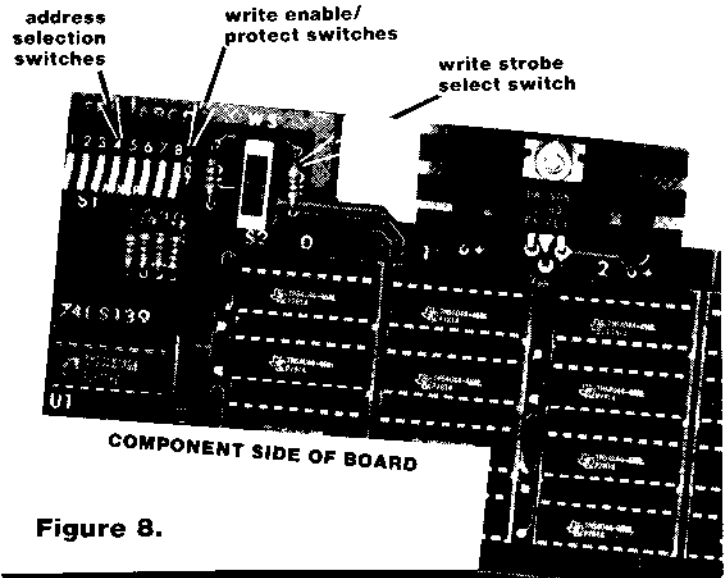

Figure 8.
3. Mount the slide switch in position as shown in figure 8 (note: orientation is not important).
5. Observe the 8 pole dip switch. The side with the number 1-8 faces the upper edge of the board (see figure 8). Mount the switch in place, and then solder. (Note: May be already soldered in place.)